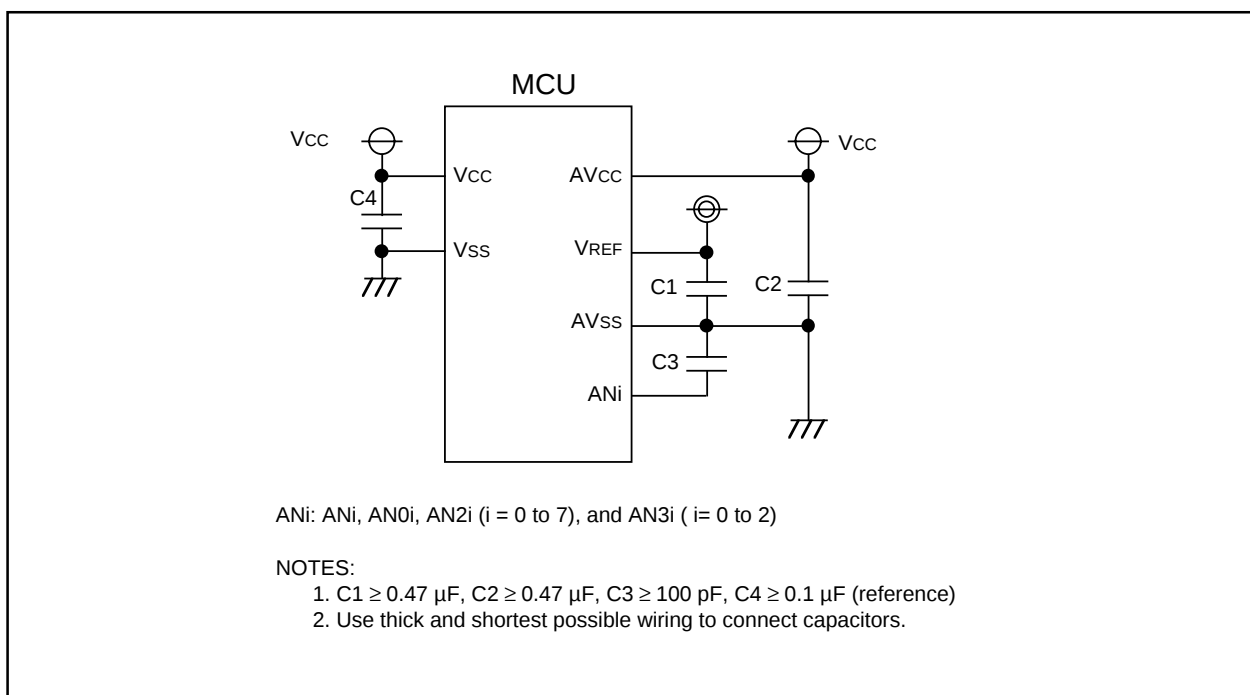

Figure 20.5 Use of capacitors to reduce noise
3. To prevent noise-induced device malfunction or latchup, as well as to reduce conversion errors, insert capacitors between the AVCC, VREF, and analog input pins (ANi, AN0i, AN2i(i=0 to 7)) each and the AVss pin. Similarly, insert a capacitor between the Vcc pin and the Vss pin. **Figure 20.5** is an example connection of each pin.